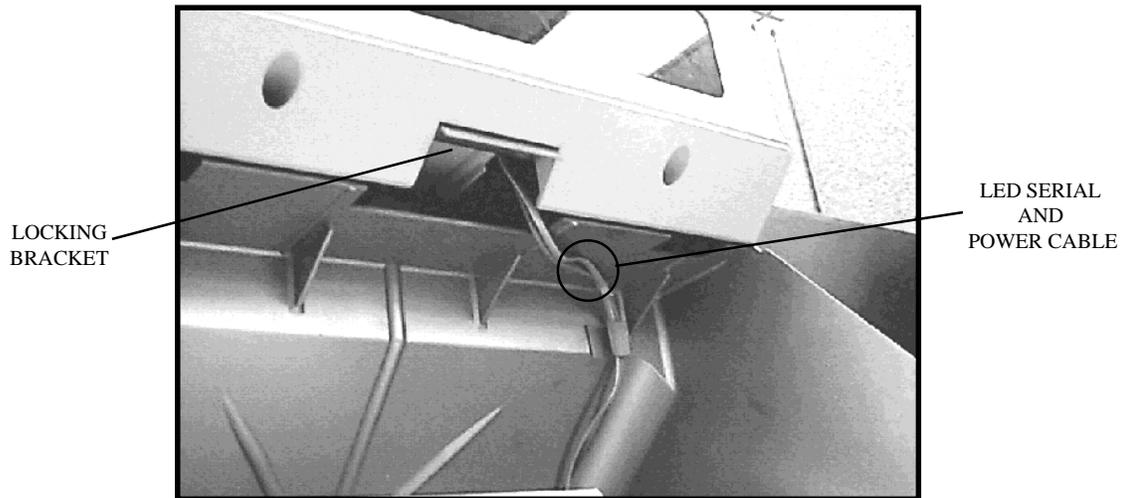

FIGURE 3-4
- Place the scrolling sign assembly onto the terminal hood by using the reverse of step 4. Ensure the cables are positioned to the side of the locking bracket. Secure the housing to the hood with the two #8-32 Pan Head Screws. (See Figure 3-4.)